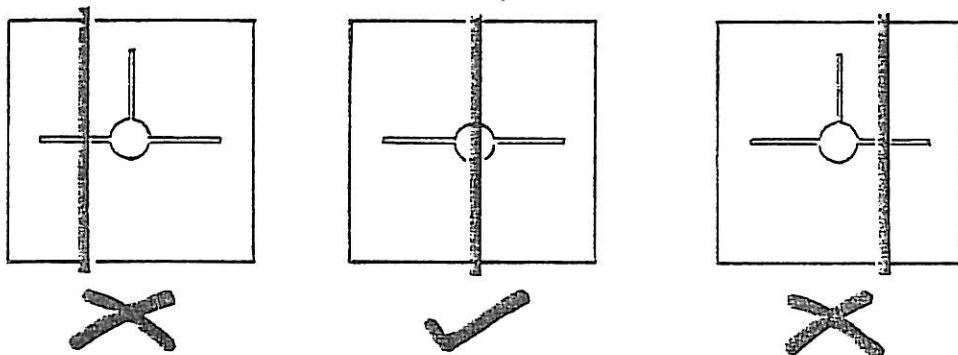

Fig. 14
- Using the knurled adjusting knob on the Headlamp Aligner, align the foresight with the vertical slit on the screen. When the two are directly in line the slit will be hidden by the foresight (see Fig. 14).